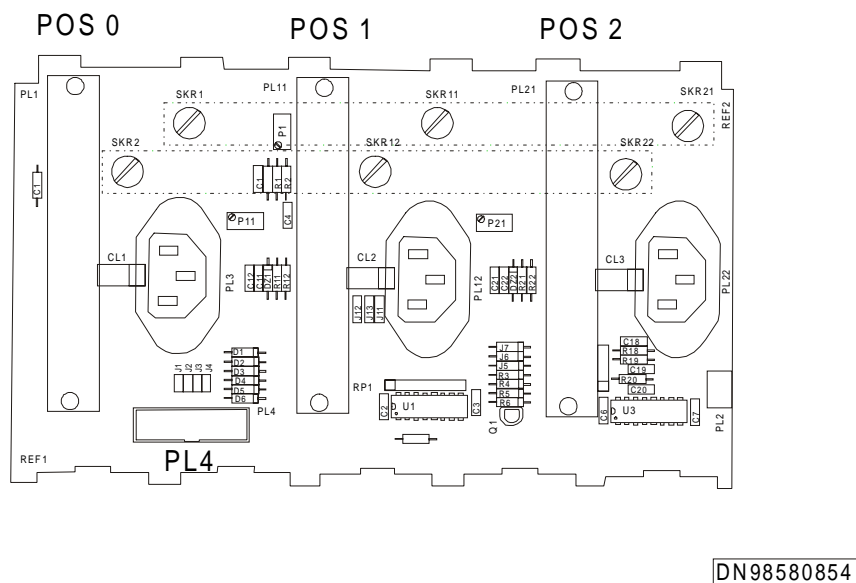

Figure 61 Backplane front view
7. Adjust the voltage to 53V with the sealed screw at position P1 (see Figure 61). The voltage can be measured at the screws SKR11, SKR12.
11. Adjust the voltage to 53V with the sealed screw at position P11 (see Figure 61). The voltage can be measured at the screws SKR1, SKR2.
15. Adjust the voltage to 53V with the sealed screw at position P21 (see Figure 61). The voltage can be measured at the screws SKR1, SKR2.